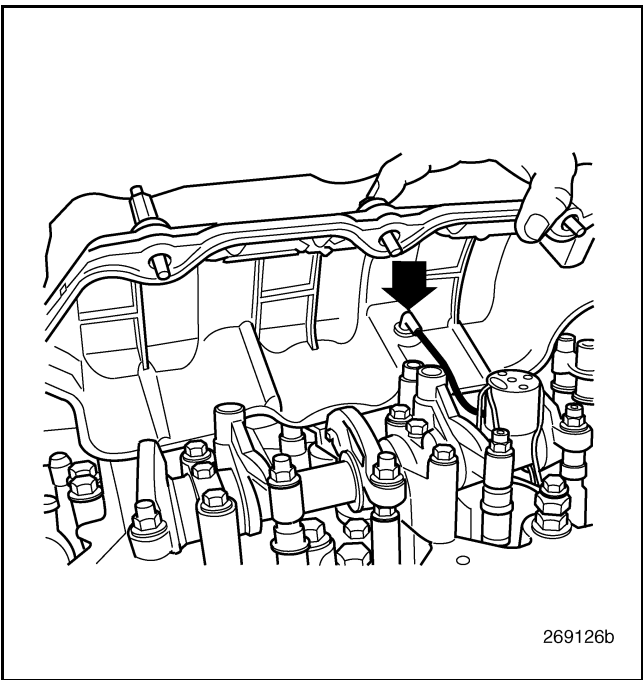

Figure 163 — PowerLeash™ Internal Control Wire Removal
3. For each cylinder head cover, carefully lift and tilt the cylinder head cover onto the cover's side as shown in Figure 163, being careful not to pull on the solenoid wire as the cover is being lifted. Unplug the 90-degree connector from the inside end of the cylinder head cover pass-through connector. Then, complete the removal of the cylinder head cover.